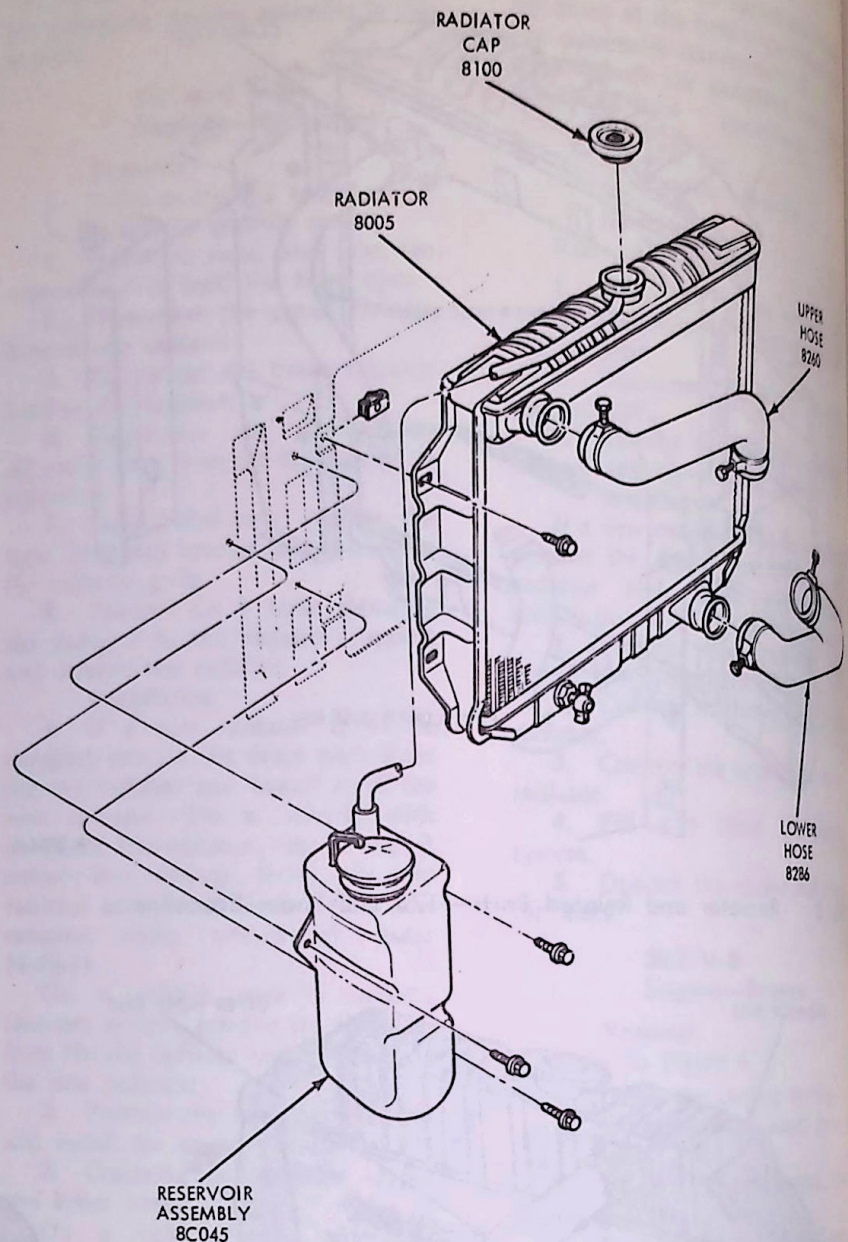

FIG. 4 Coolant Recovery System—Typical
6. On 6-cylinder engines equipped with a coolant recovery system (Fig. 4) fill the radiator, through the filler cap opening of the radiator upper tank, completely full. The cap may be removed by turning to the stop and, pressing down on the cap, force the cap past the stop tangs on the filler neck. Engine should be running at idle speed to circulate the coolant and eliminate any trapped air in the system. Install the radiator cap. Fill coolant reservoir with one quart of coolant. Operate vehicle until normal engine temperature is evident. Check coolant reservoir to see if coolant level is noted at the **Engine Hot** level. If necessary, add coolant to bring to this level.
On 6-cylinder engines equipped with a coolant recovery system (Fig. 4), fill the radiator, through the filler cap opening of the radiator upper tank, completely full. The cap may be removed by turning to the stop and, pressing down on the cap, force the cap past the stop tangs on the filler neck. Engine should be running at idle speed to circulate the coolant and eliminate any trapped air in the system. Install the radiator cap. Fill coolant reservoir with one quart of coolant. Operate vehicle until normal engine temperature is evident. Check